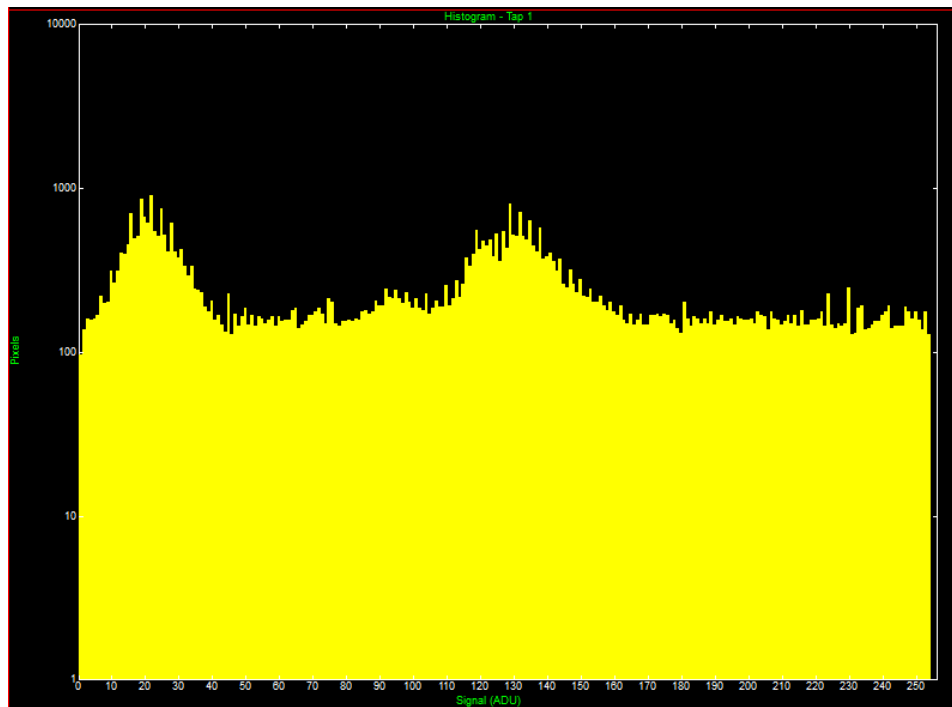

Figure 4: Plateau: 150, ITT Mean: 127, Max Gain: 8
- Figure 4: Plateau: 150, ITT Mean: 127, Max Gain: 8 6